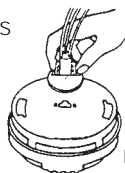

FIGURE 4
- Plug the AC QUICK CONNECTOR into the back of the strobe light, (see fig. 4) making sure that the locks on the connector snap into place.